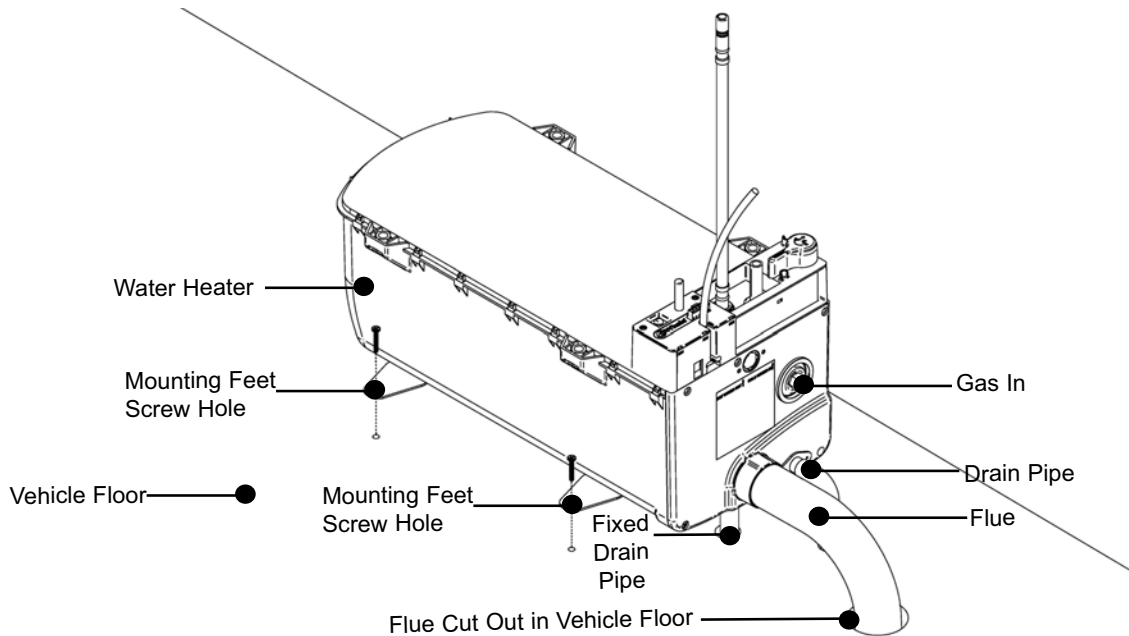

Fig. 28 Secure the Water Heater To The Floor
- ii. Attach the Water Heater to the vehicle floor. The screws **must** pass through the mounting feet, as shown in Fig. 28.